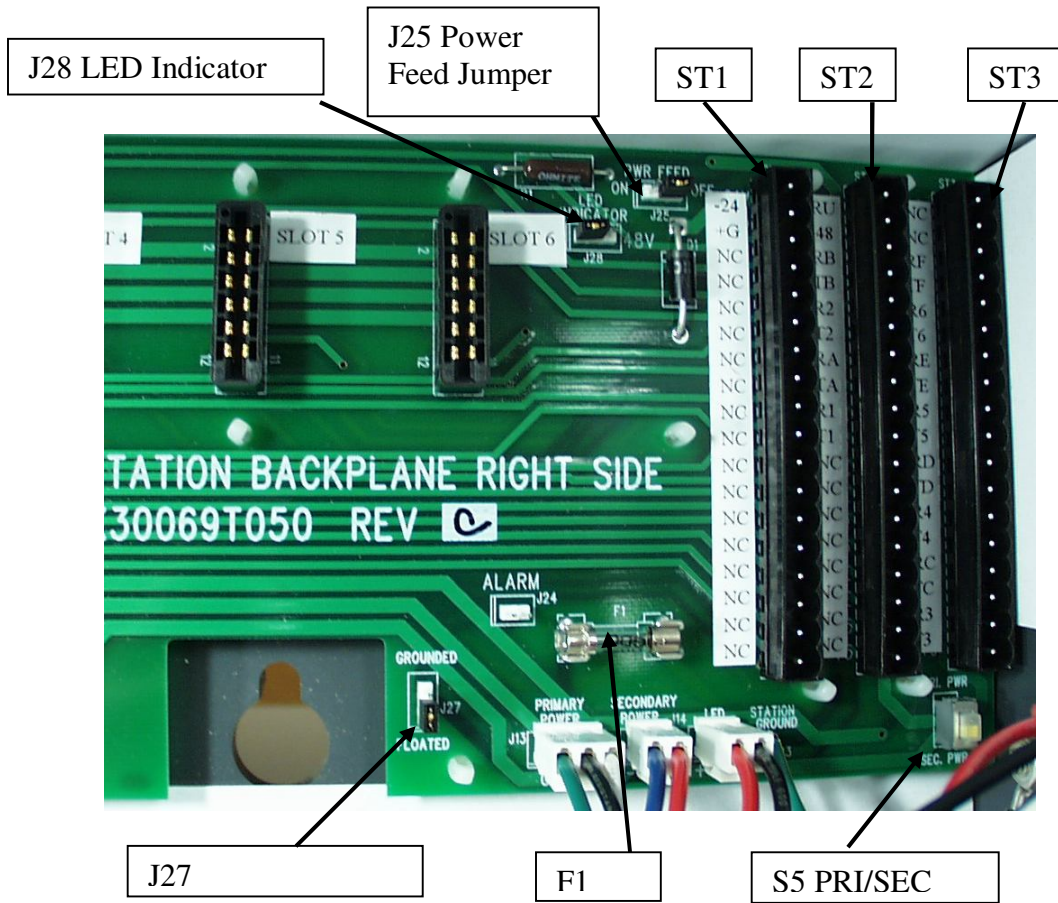

Figure 1: Station Side (Upper) Backplane
- (c) Secure the wire pairs to the appropriate 18-pin terminal blocks marked ST1, ST2, and ST3 by tightening the screws with a small 1/ 8 inch blade screwdriver. See Table 2 and Figure 1 for appropriate cable pair termination.
(See Figure 1)
- 48VDC/ 130VDC FLOATING –With the battery terminals connected properly as described at the above section (5.3), then set switch **S5** to **Sec. Pwr** position (See Figure 1-A for location of switch).
- 120VAC –Simply plug the power cord into the AC receptacle on the card shelf, then set switch **S5** to **Pri. Pwr** position (See Figure 1).